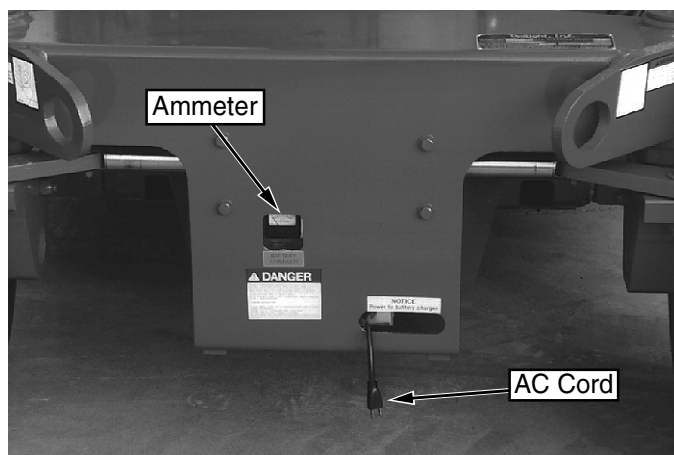

Figure 7: Battery Charger
3. Connect extension cord (minimum 12 gauge (1.5 mm²) conductor and maximum 50 ft. (15 m) in length) to charger plug located through the opening in front of the chassis (see figure 7). Connect extension cord to properly grounded outlet of proper voltage and frequency.
3. Lift flap located on top of chassis right side (see figure 7).